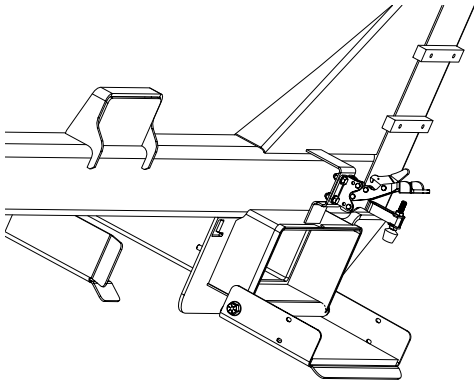

Figure 1
2. Unlatch and lower the cleanout door on one side of the vehicle (Figure 1).